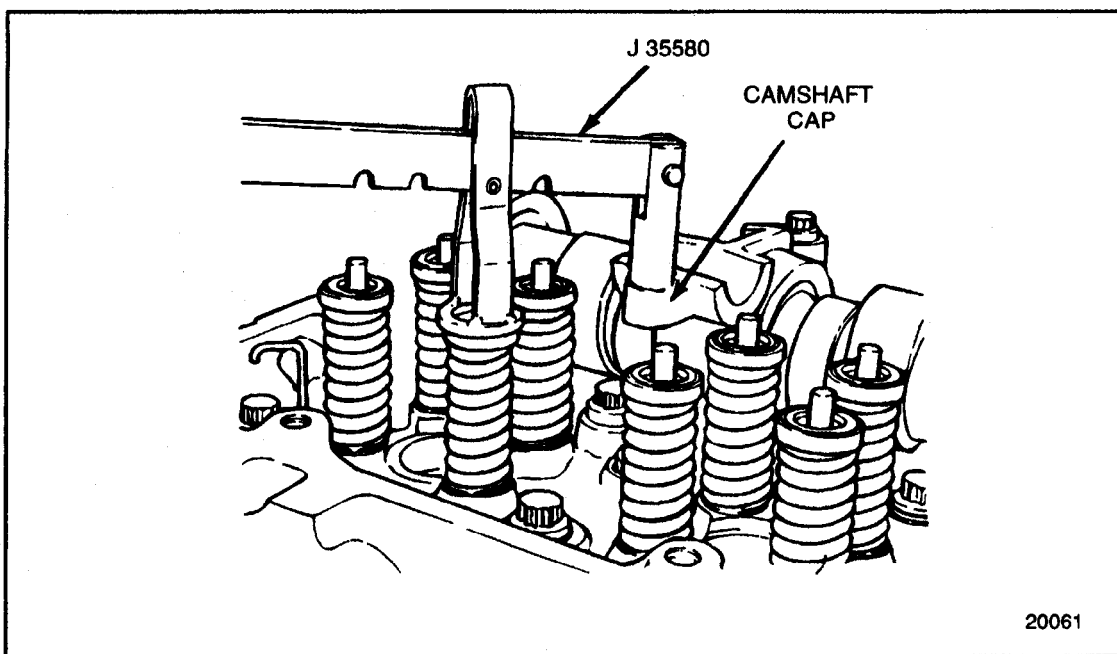

Figure 1-67 Installing Valve Spring Compressor
6. Insert the threaded portion of the valve spring compressor, J 35580 into the threaded inboard camshaft cap hole adjacent to the valve being worked on. See Figure 1-67.